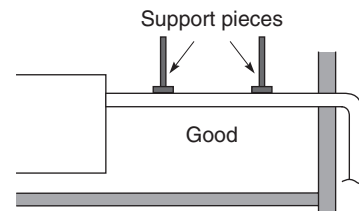

Fig. 1-113
- Do not apply force to the piping on the unit side when connecting the drain pipe. The pipe should not be allowed to hang unsupported from its connection to the unit. Fasten the pipe to a wall, frame, or other support as close to the unit as possible. (Fig. 1-113)